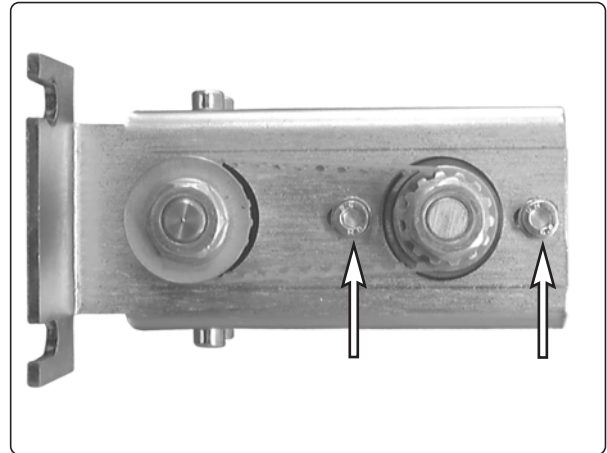

Fig.40. The seat lift shaft is attached by two bolts.
1. Loosen the two bolts near the belt, see fig. 40.